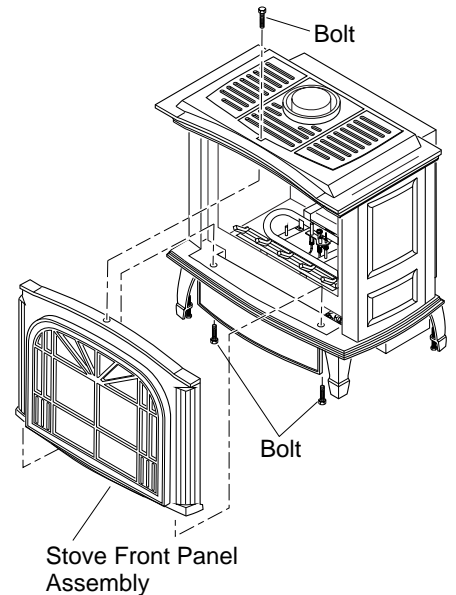

Figure 43 - Removing Front Panel from Stove
1. Remove 2 bolts from bottom of stove (if still in place) and one from the top of stove to remove front panel (see Figure 43).